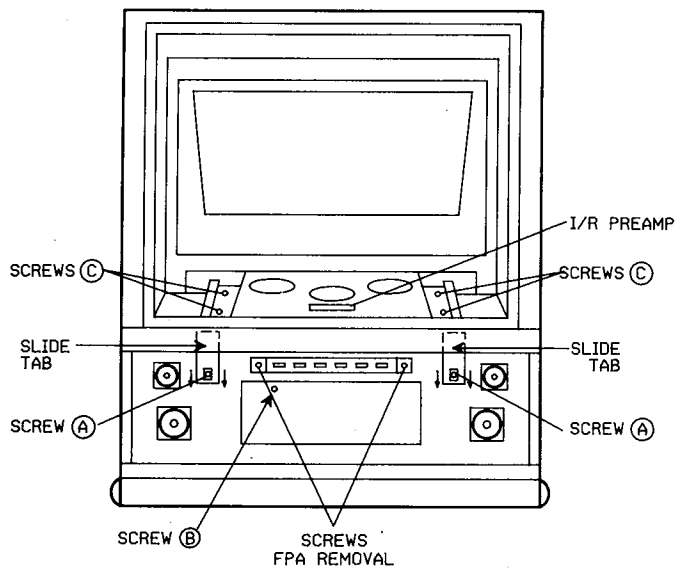

Fig. 1b - Cabinet Front View (Speaker Grille and Screen Removed) (46GW951/952, P46101/151/159, P52151)
2. Loosen screws A and pull slide tab down (Fig. 1b.).